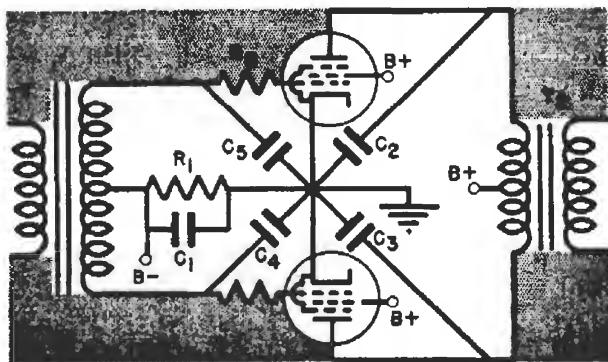

FIG. 24. Here are pictured the cures for parasitic oscillation in an output stage.
for parasitics is to insert suppressor resistors right at the grid terminals of each tube, as shown in Fig. 24. Resistors R_2 and R_3 should be between 100 and 1000 ohms. Use the smallest size which will eliminate oscillation.
bypass paths from the plates run through condensers C_2 and C_8 to $B+$, from $B+$ to $B-$ by way of the output filter condenser, and then to the cathode through condenser C_1 . Bringing C_2 and C_8 directly to the cathode, as shown in Fig. 24, eliminates a great deal of this path, and so makes parasitic oscillations less likely. If C_2 and C_8 are used in this manner, they must have voltage ratings of 600 volts or higher.
► As an additional measure, grid condensers of about .0005 mfd. each can be installed to change the grid resonant frequency, as shown by C_4 and C_5 in Fig. 24. (Sometimes they are installed by the manufacturer.) If used, C_4 and C_5 should return to the same cathode point as C_2 and C_8 .